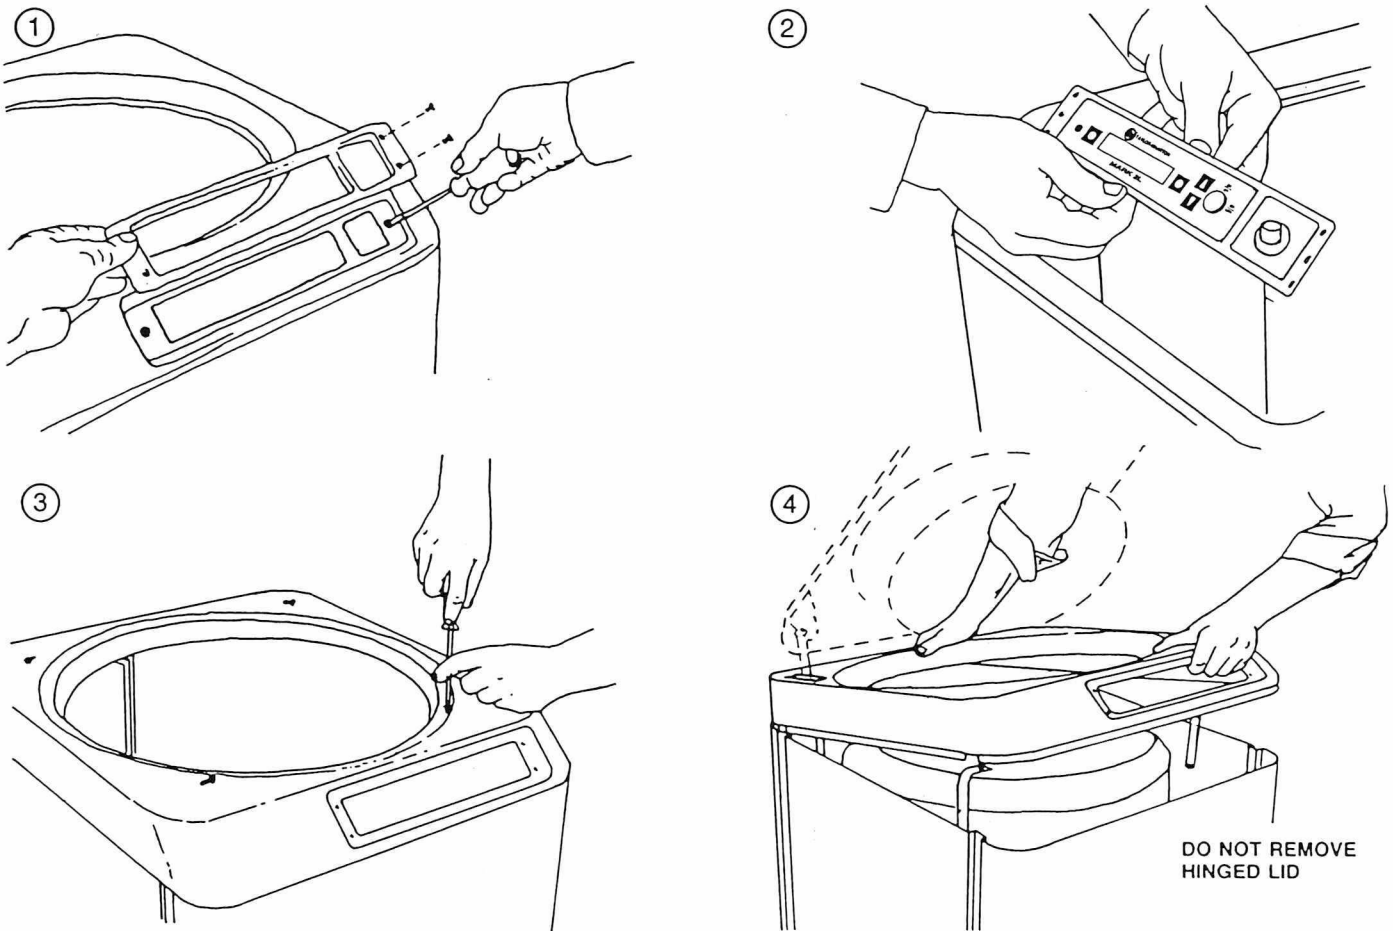

Figure 11. Removing the Cabinet Top of the 10K or 24K
Remove the cabinet top, follow the steps illustrated in Figure 11 to remove the four (4) screws holding the trim (escutcheon) where the controller will be mounted. Remove four (4) screws from the top of the refrigerator and lift the cabinet top to gain access to the area between the cabinet and the insulated inner vessel. The cabinet top may only be raised as shown in Figure 11 because of the lid hinges. Do not remove the hinged lid. After the cabinet top is loosened and propped up, this will allow access to the location where the electrical supply connections will be mounted.
and lift it from the refrigerator far enough to detach its electrical connection wiring. Remove four (4) screws from the top of the refrigerator and lift the cabinet top to gain access to the area between the cabinet and the insulated inner vessel. On the 10K and 24K the cabinet top may only be raised as shown in Figure 11 because of the lid hinges. Do not remove the hinged lid. After the cabinet top is loosened and propped up the electrical connection wiring may be detached to allow access to its back panel connection. At the completion of maintenance or repairs, reattach the electrical connection wiring to the controller. Install the controller using the procedure outlined for your refrigerator in **Installing the Controller** section.
For the 10K/24K first turn off the power, then, remove the trim (escutcheon) around the controller (four screws) and the two screws securing the controller (See figure 11). Slide the controller up out of the cabinet high enough to locate an opening in the metal cover marked: -196°C ADJUST. and ZERO TEMP. ADJUST. These adjustments are located on the side of the controller board that is toward the rear of the refrigerator.